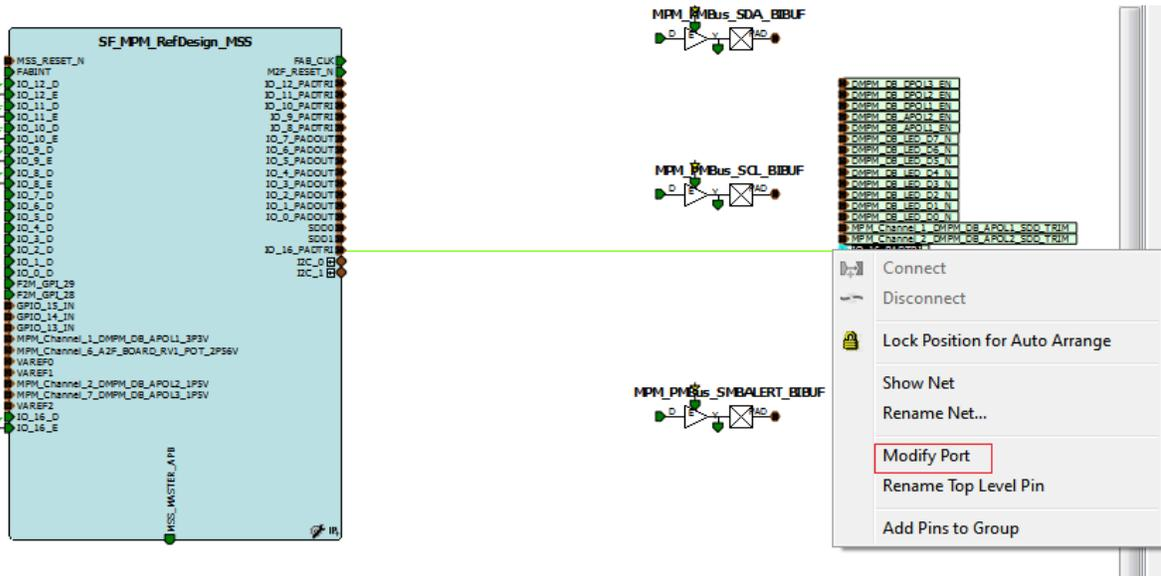

Figure 28 • Selecting Modify Port
- Right-click the IO_16_PADTRI pin of SF_MPM_RefDesign_MSS and select Modify Port as shown in Figure 28.